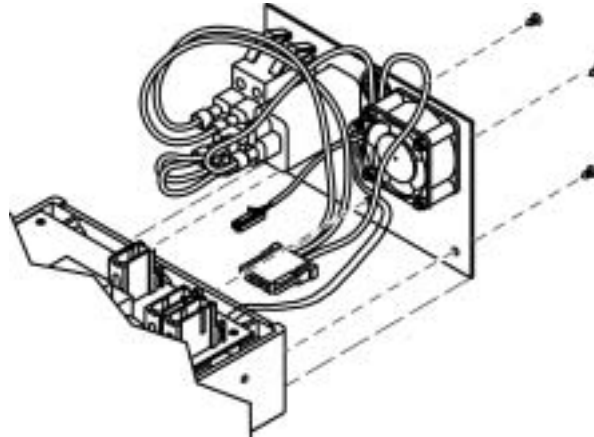

Figure 27: Rear Panel Assembly Connection
12. Connect the replacement rear panel assembly to the chassis assembly. The screws should be torqued to 3 inch/lbs (8 cm/kg). See Figure 27.